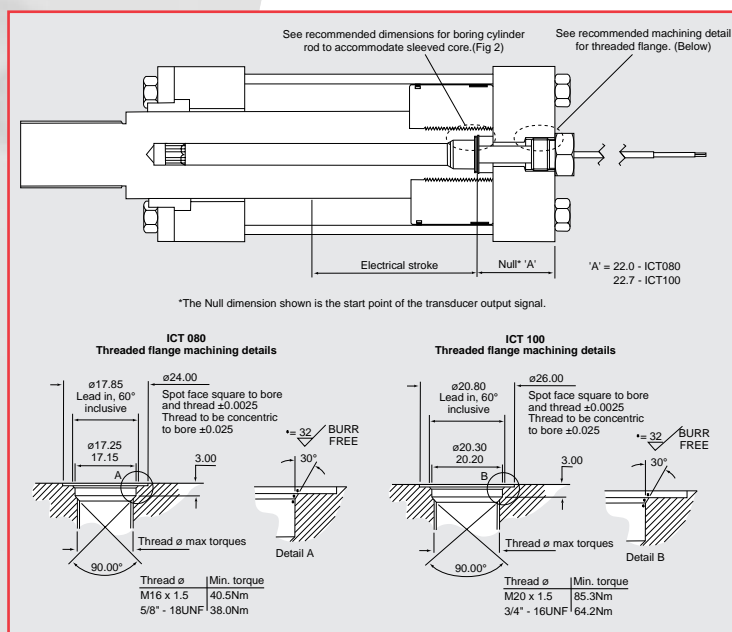

Fig 1 - Typical installation for tie-rod actuator. Recommended machining details for threaded flange attachment.
Threaded flanges (EU/EM) are intended for mounting through the cylinder rear via a threaded hole. See Figs.1 and 3 for recommended installation and machining details. The threaded flange is also available in a reversed format (RU/RM) which will allow the transducer to be fitted within the actuator footprint. See Figs.1 and 4 for installation details.
The sleeved core (S) allows the cylinder rod to be simply machined and attached with the mounting hardware supplied. See Figs.1 and 2 for schematics and recommended machining details. Sleeve lengths are shown on pages 5 and 7, to allow the full diameter drill depth to be calculated.